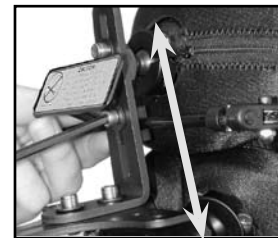
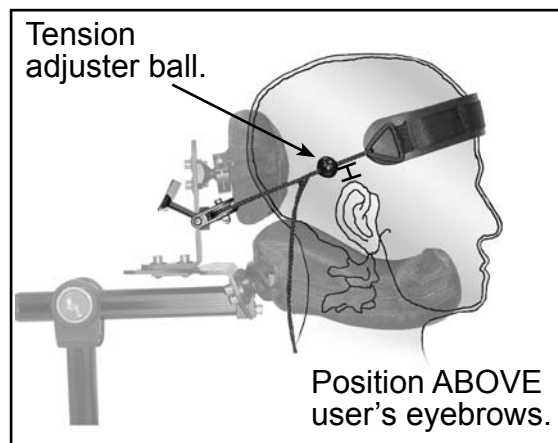

Fig.3
Fig.4
Step 3 (Fig. 3) - Adjusting the angle of forehead strap pull: Adjust the assembly up or down to achieve a direction of pull on the forehead that is perpendicular to the slope of the forehead (Fig.4).